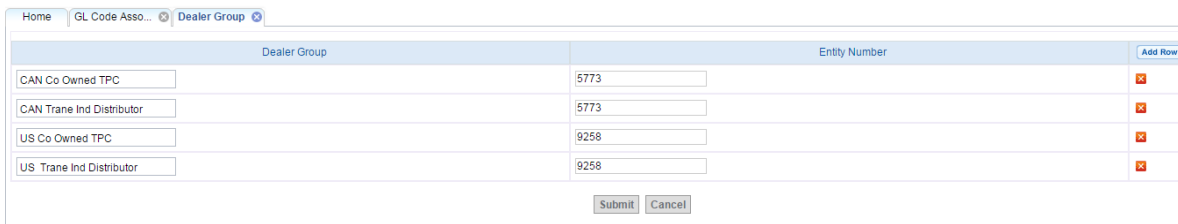

Fig 2: Dealer Group Screen for GL Code
Distributor Group	Will associate the Number associated to the distributor group from the Distributor Group Link under Manage GL Code (Refer Fig 2)
- The Distributor link will be used to map the Code with the Dealer Group Refer Fig 2